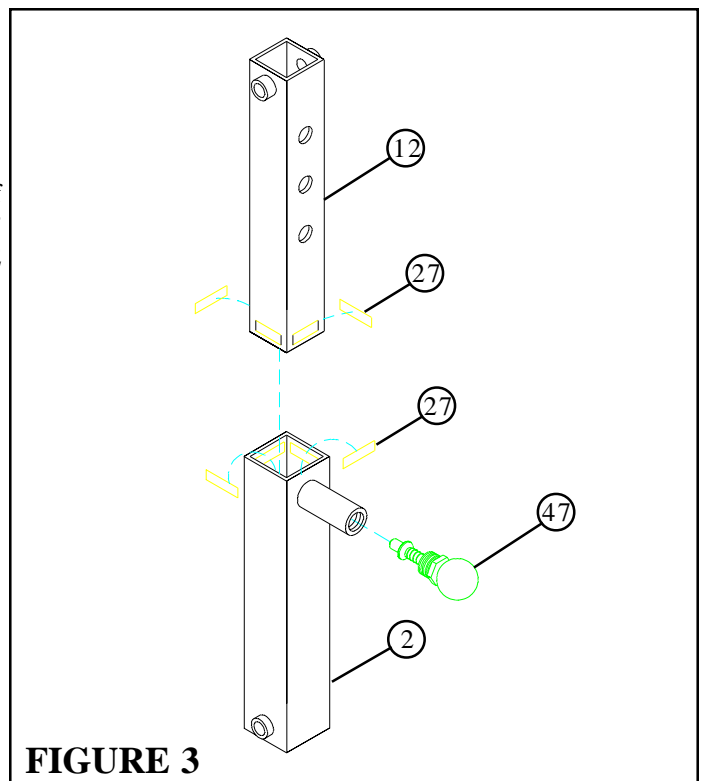

FIGURE 3
- Attach four 1-1/2 X 3/4" PARAGLIDE STRIPS (27) to the end of the PLATFORM ADJUSTMENT (12), and four 1-1/2 X 3/4" PARAGLIDE STRIPS (27) to the end of the PLATFORM SLEEVE as shown in FIGURE 3 using the following steps:
- Thoroughly clean all surfaces where the PARAGLIDE STRIPS (27) are to be attached.
- Remove the PARAGLIDE STRIPS (27) from the paper backing and firmly apply them to all shown surfaces.
- **SECURELY** Assemble one 1/2" DIA. SPRING PIN (47) to the SPRING PIN HOUSING, on the PLATFORM SLEEVE (2) as shown in FIGURE 3. **(!!! IMPORTANT !!! TIGHTEN THE NUT OF THE SPRING PIN SECURELY)**